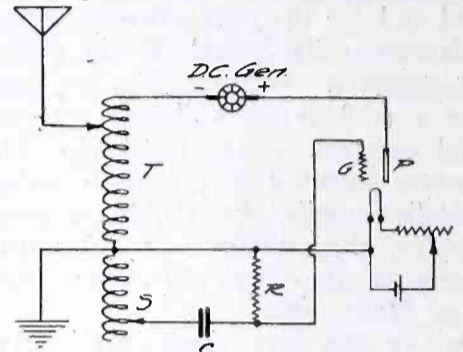

Fig. 76. Hartley Circuit with Tickler Coil in Antenna Circuit
possible. The grid current itself, however, is fairly small, and as a matter of economy and convenience, the grid coil, S , is generally removed from the antenna circuit, as in Fig. 76. In this circuit, the grid coil may be wound with smaller wire.
76. The resistance of transmitting grid leaks varies from 5,000 to 12,000 ohms, depending upon the design and the capacity of the transmitter tube. In Fig. 76, the antenna circuit is tuned by varying the slider on the coil T .